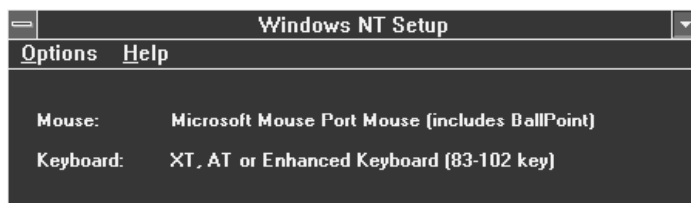

Figure 3-1. Windows NT Setup
1. Click on the **Windows NT Setup** icon from the **Main** group to display the dialog shown in Figure 3-1.